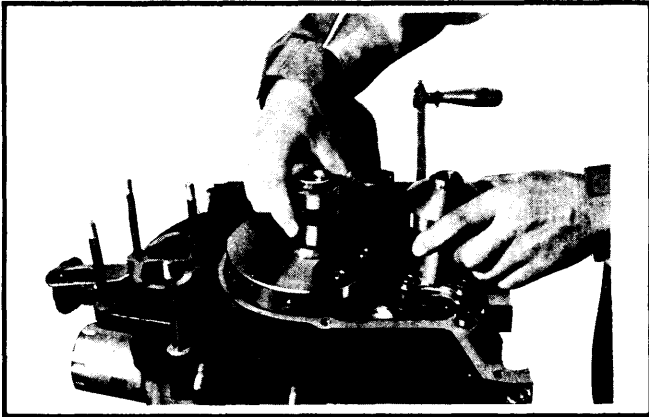

Fig. 3 Removing Sprockets & Chain from Engine
5) Turn engine so that front end is up. Remove front cover with gasket. Remove "O" ring from oil passage on front housing. Slide distributor drive gear off shaft. Remove chain adjuster. Remove oil pump sprocket lock washer and nut. Slide oil pump sprocket and eccentric shaft sprocket and drive chain off shafts simultaneously. See Fig. 3. Remove keys from shafts. Slide balance weight, thrust washer and needle bearing off shaft.